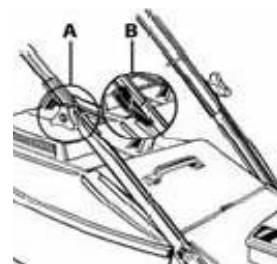

Figure 1. Handle bar pivot bolt knobs and camlocks
- ★ Loosen the two handle bar pivot bolt knobs (A) (where fitted).
- ★ Fold the handle bars out straight, in line with the lower handle bars. Tighten the two handle bar pivot bolt knobs (A) or the cam locks (B) to secure the handle bars in position. Refer to figure 1.